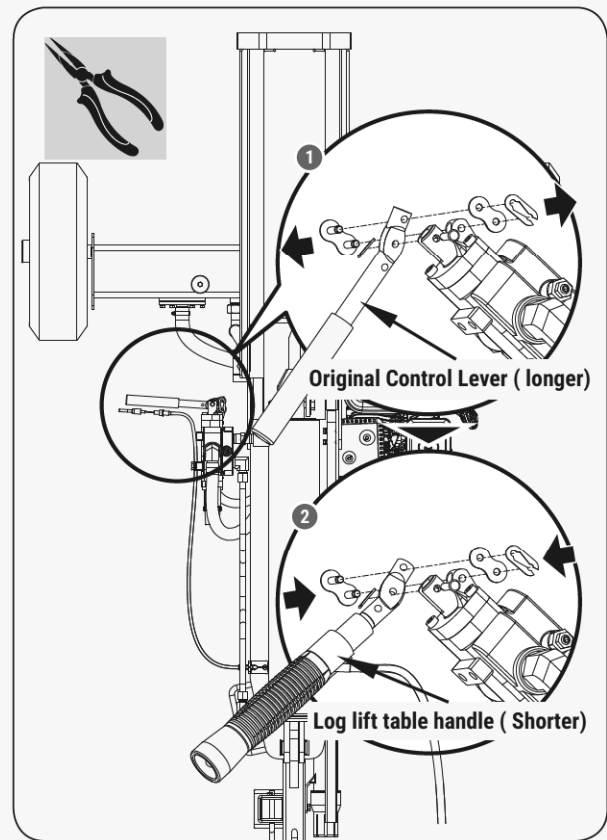

Figure 15
1. Disassemble the original long control lever (See **Figure 15, illustration 1.**), assemble the shorter log lift table control lever instead with the same hardware parts (See **Figure 15, illustration 2.**)